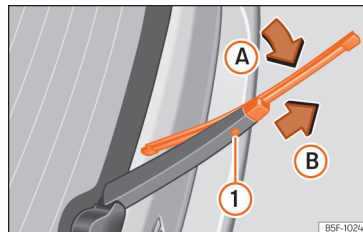

Fig. 42 Changing the rear wiper blade
- Turn the blade slightly »» Fig. 42 (arrow A).
- Hold down the release button ❶ while gently pulling the blade in the direction of arrow B.
- Insert a new blade of the **same length and type** in the rear wiper arm in the opposite direction to the arrow B and hook into place button ❶.